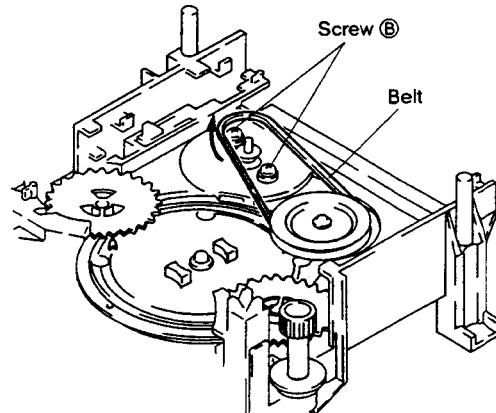

Fig. 2-11
(4) Turn over the loading base once again, and tighten the loading motor with two screws ⑧ and set the belt as shown in Fig. 2-11.